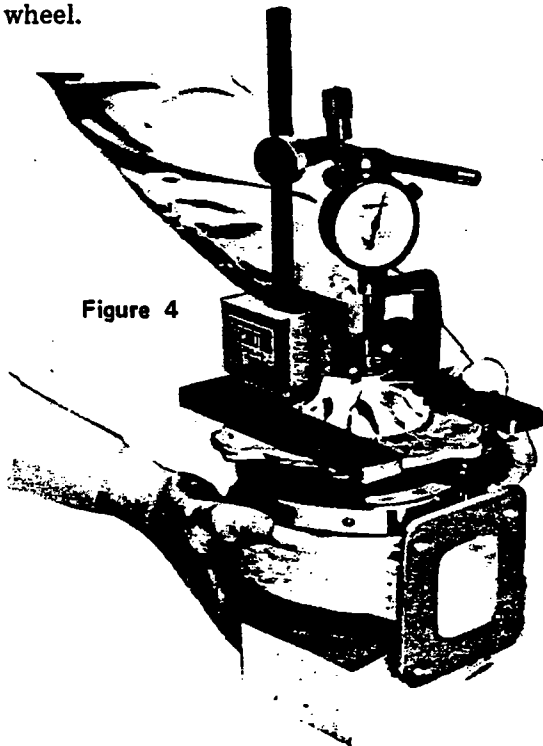

Figure 4
7. With the gasket removed, reposition the bearing housing assembly onto the turbine housing and resecure the V-clamp as shown in Fig. 4. This will overcome the tension of the spring ring and hold the turbine shield away from the turbine wheel.
8. Place a flat U-plate on the bearing flange and secure it with a small C-clamp. Place a dial indicator on the plate and adjust it so that the indicator point is resting on the end of the shaft as shown in Fig. 4. Inserting your fingers into the turbine outlet, press up fully on the turbine wheel